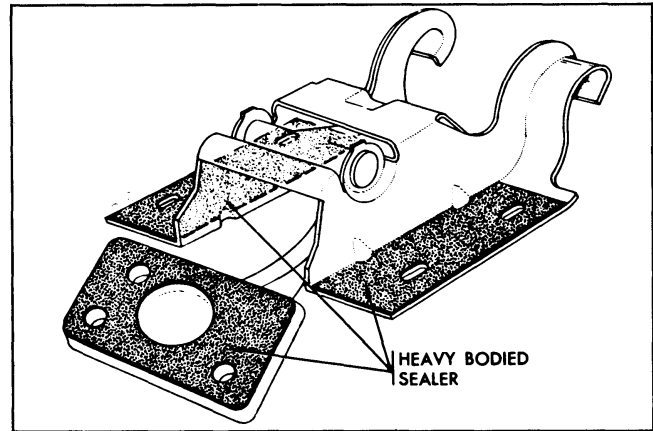

Fig. 15-12 Back Door Hinge - Anti-Squeak
3. To install back door assembly, first, as an anti-squeak precaution, apply a coat of heavy-bodied sealer to attaching surfaces of both hinges. (Fig. 15-12) then, reverse removal procedure. Align back door with previously made hinge marks.
2. As an anti-squeak precaution, apply a coat of heavy-bodied sealer to surfaces of hinge which contact body and back door (Fig. 15-12).